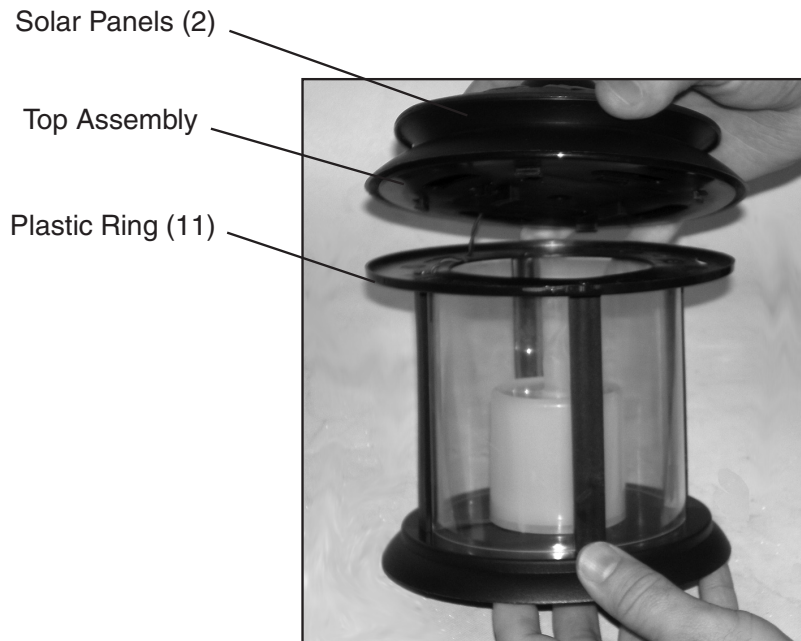

FIGURE 1
2. After the Batteries (8) are charged, remove the Top Assembly (*See Figure 1*) by twisting counterclockwise off the Plastic Ring (11) and lifting it off the Lantern.
1. Turn the Top Assembly of the Solar Candle Garden Lantern slightly counterclockwise. Remove the assembly from the top of the Solar Candle Garden Lantern. *See Figure 1 on page 3.*